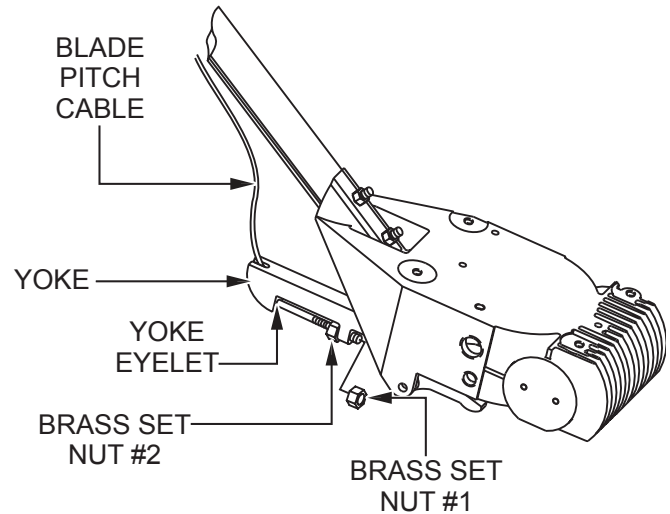

Figure 9. Cable Yoke Attachment
4. Insert the blade pitch cable end through the yoke eyelet (Figure 9). Tighten brass set nut #1 by hand to remove all the slack from the cable.